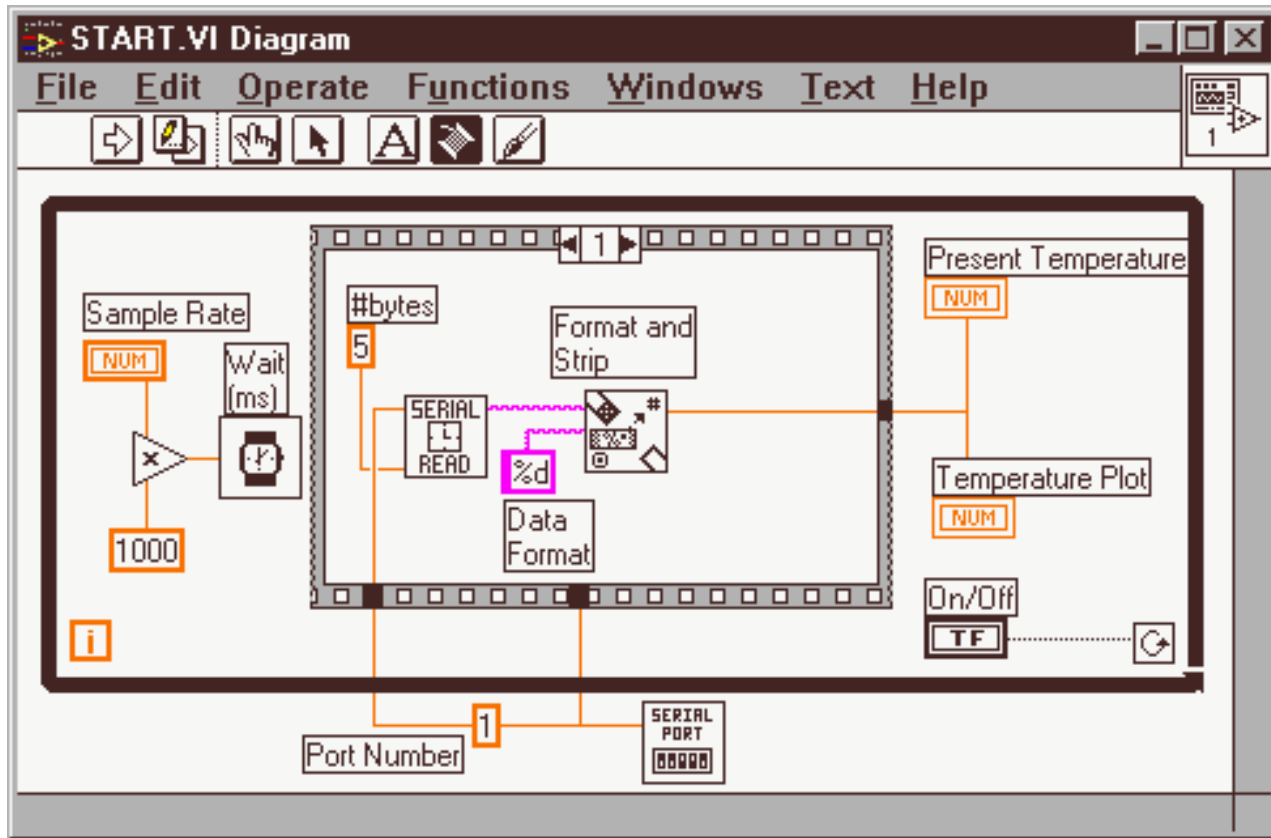

Figure 9 : Reading and Formatting Data
- Place it in the frame along with a "Format and Strip" function from FUNCTION/STRING/FORMATANDSTRIP. Wire as shown in Figure 9 including, a numeric constant of 5 for number of bytes to receive (4 plus CR), and a string constant of "%d" to identify the incoming data as integer format. Wire the output of the " Format and Strip" function to both the " Present Temperature" display and the " Temperature Plot "